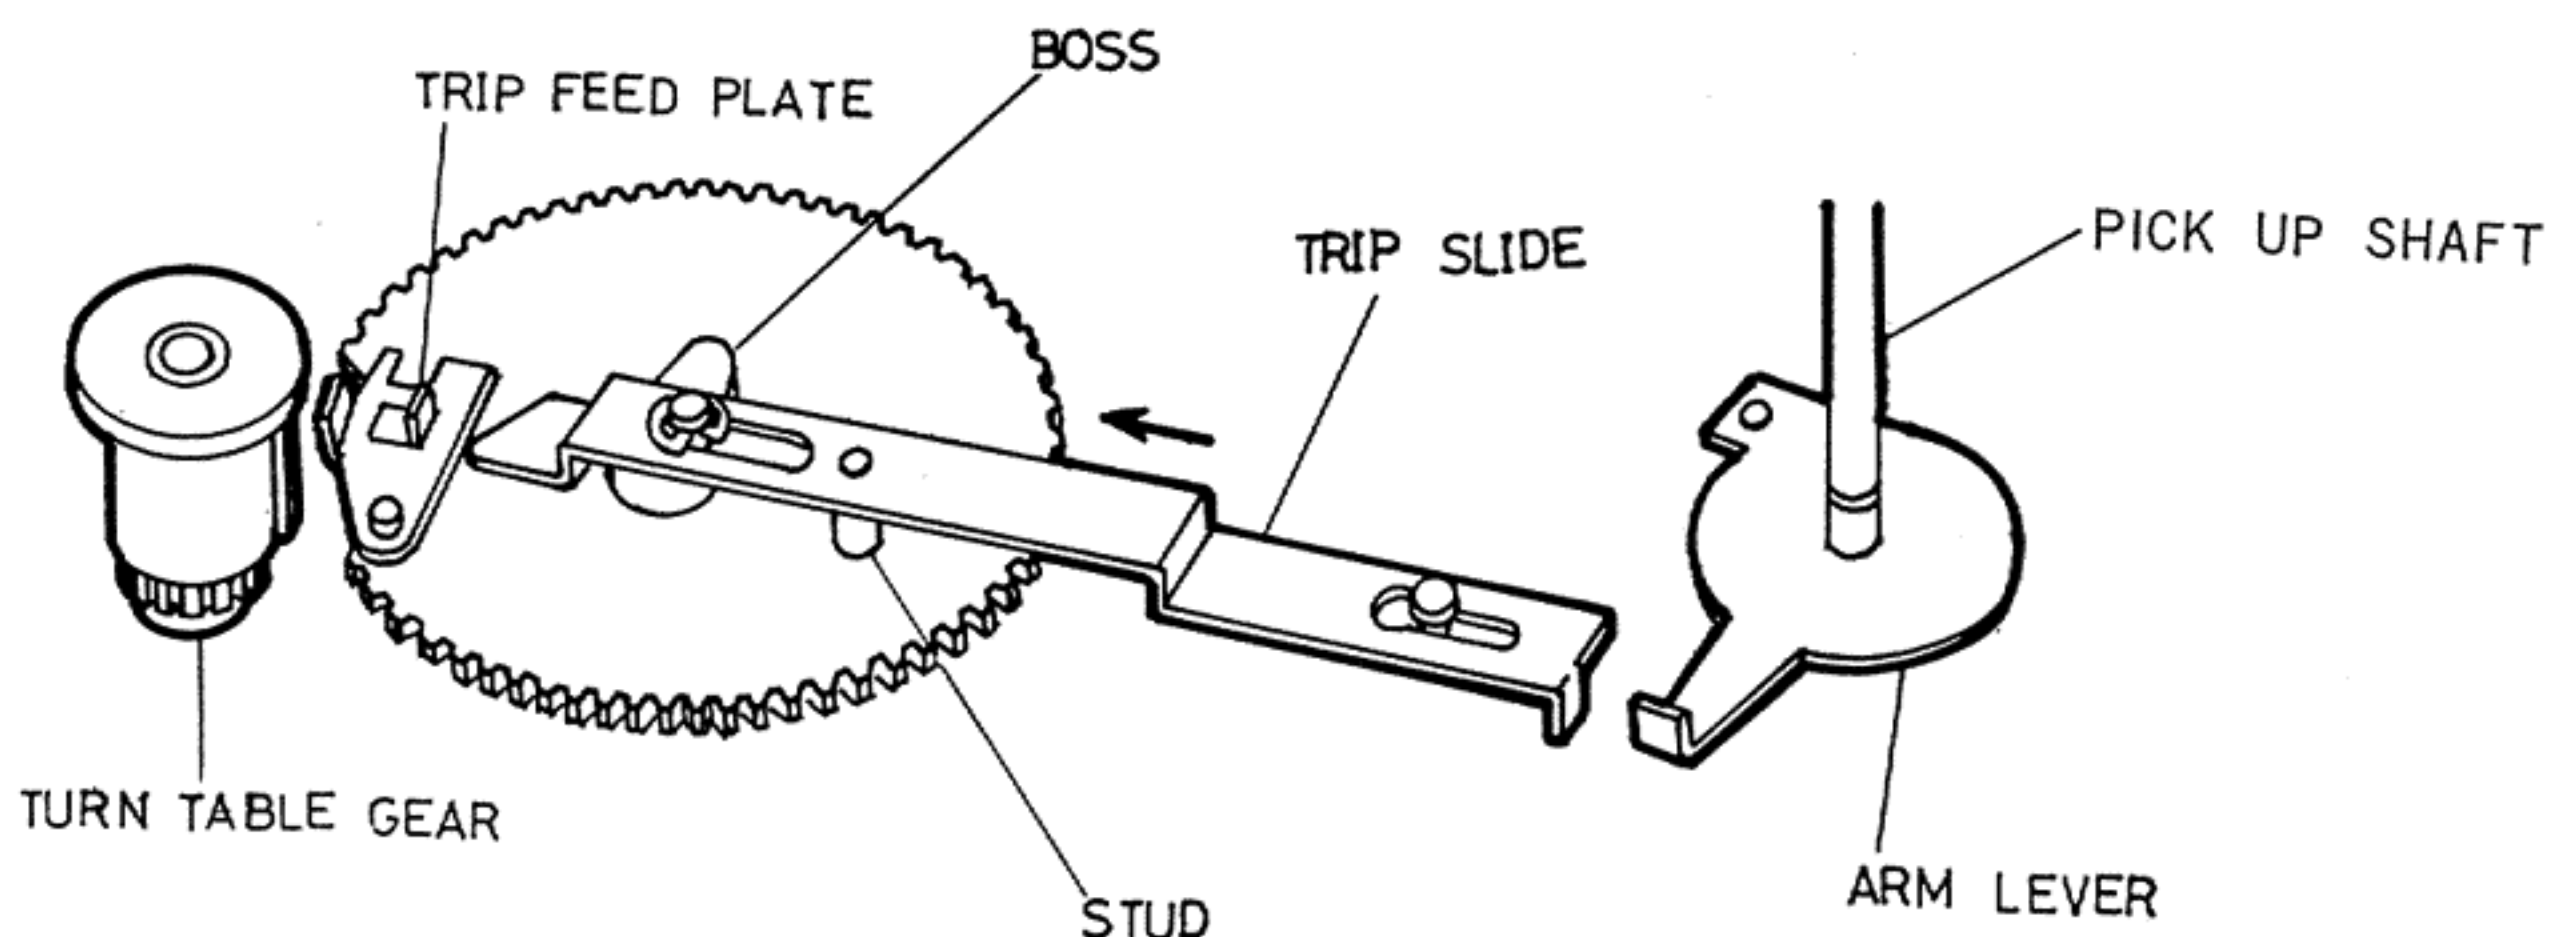

Fig. 7
LEAD-OUT (Fig. 7)
- g. Simultaneously (Fig. 7 & 8), the Cam pushes the Stud and returns the Trip Slide to original position.